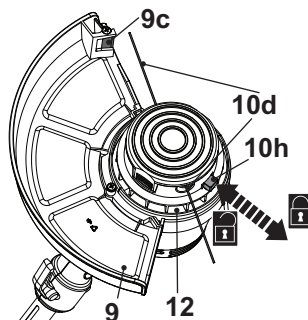

Fig. 15
1. Turn trimmer head (10) upside down.
2. Press the release push button (10h) while pulling on the trimming lines (10d). The trimming spool (10c) will release the trimming lines (10d) (Fig. 15).